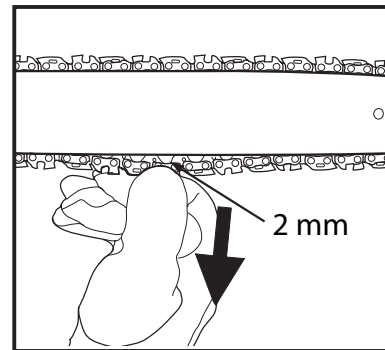

Figure 3 - Correct chain tension
2. Fill the oil tank with 3.4 oz. of saw chain oil (Figure 3).